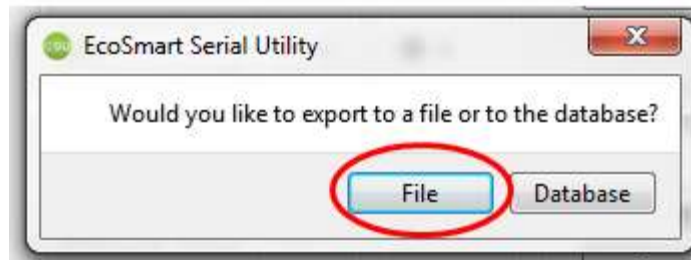

Figure 22
27. In the dialog box, select **File** (Figure 22).